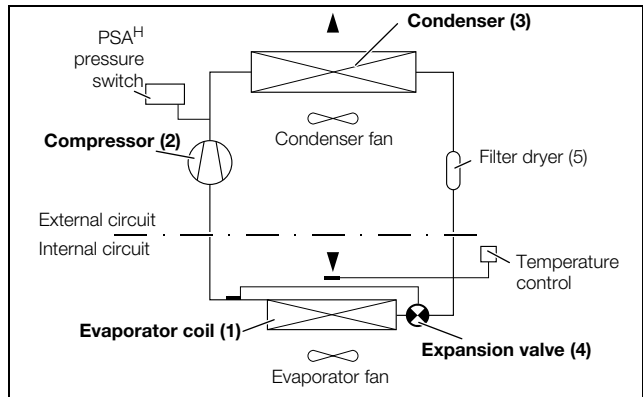

Fig. 2: Cooling circuit
The cooling unit (compression refrigeration system) is comprised of four main components (fig. 2): the evaporator (1), the coolant compressor (2), the condenser (3), and the control or expansion valve (4), which are connected by suitable pipework. This circuit is filled with a readily boiling substance, the refrigerant. Coolant R134a (CH_2FCF_3) is chlorine-free. Its ozone destruction potential is 0, making it very ecofriendly. A filter dryer (5) which is integrated into the hermetically sealed cooling circuit provides effective protection against moisture, acid, dirt particles, and foreign bodies within the cooling circuit.